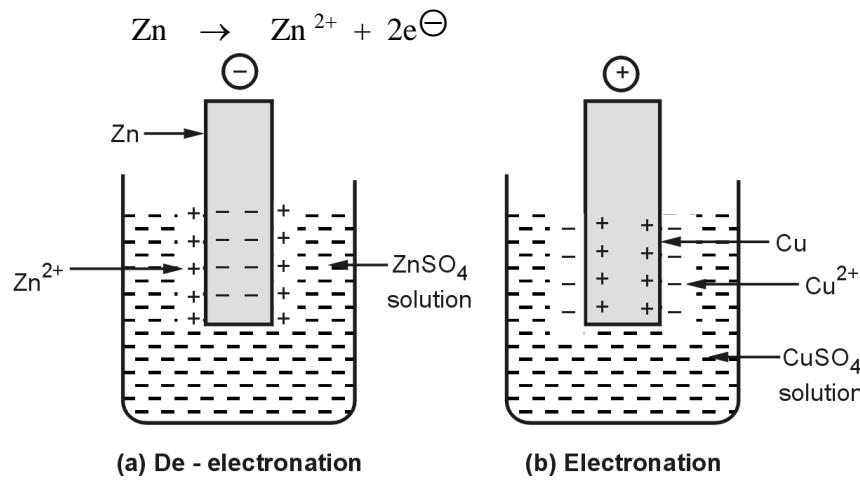

Fig. 5.6.1
For example: Zn rod immersed in $ZnSO_4$ solution (Fig. 5.6.1 a).
- **Possibility II:** The positive metal ions present in the solution have a tendency to accept electrons from the metal rod and get deposit on it as metal atoms. Thus metal rod acquires positive charge [Fig. 5.6.1(b)]. The reaction is called as reduction or electronation.
For example: Cu rod immersed in CuSO₄ solution (Fig. 5.6.1 b).